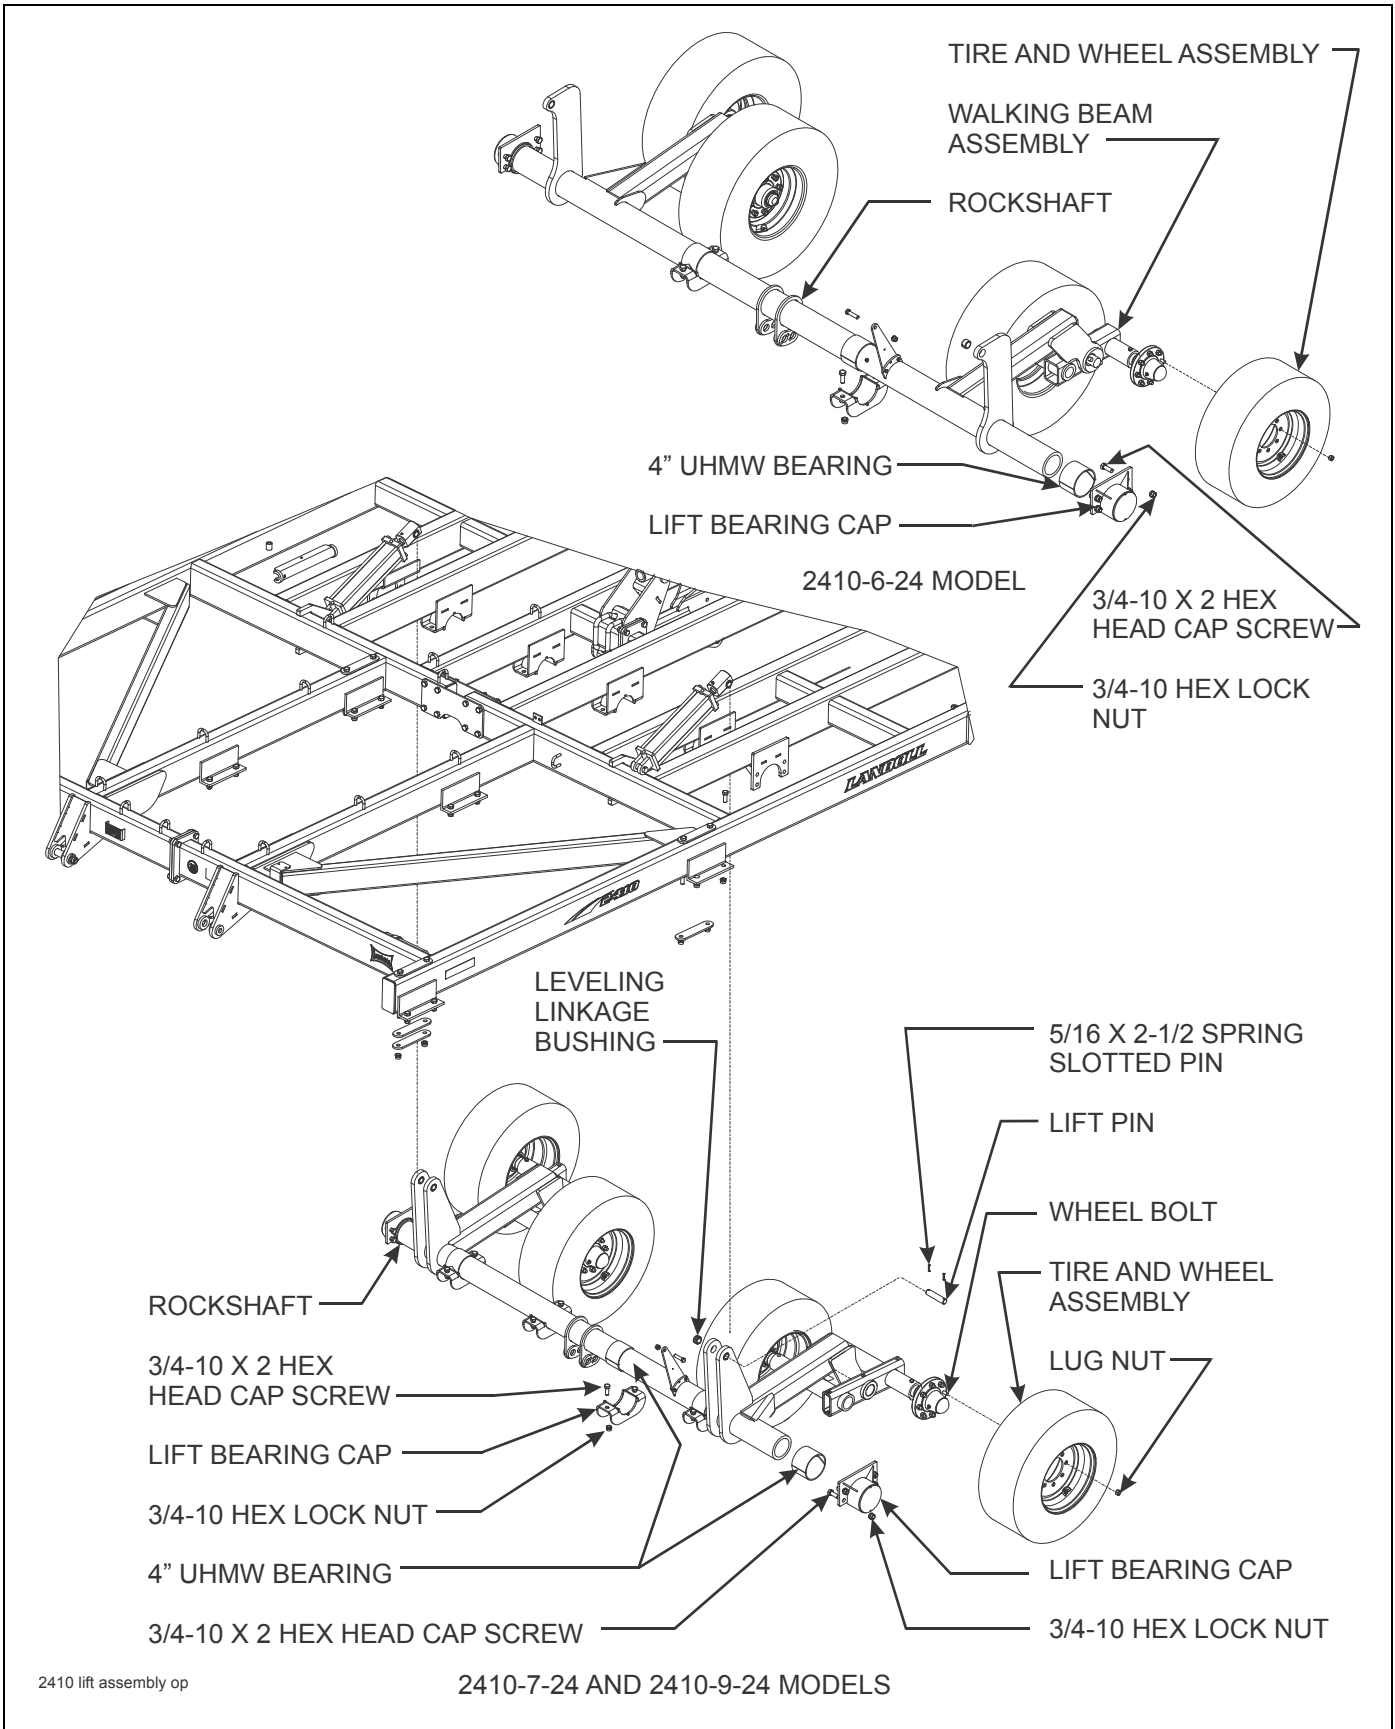

Figure 3-2: Wheel Lift Installation
3. Attach rod end of each 3-1/2 x 16 (2410-6-24) or 4 x 16 (2410-7-24 & 2410-9-24) hydraulic cylinder to the lift using lift pins and 5/16 x 2-1/2 spring slotted pins **(See Figure 3-2.)**